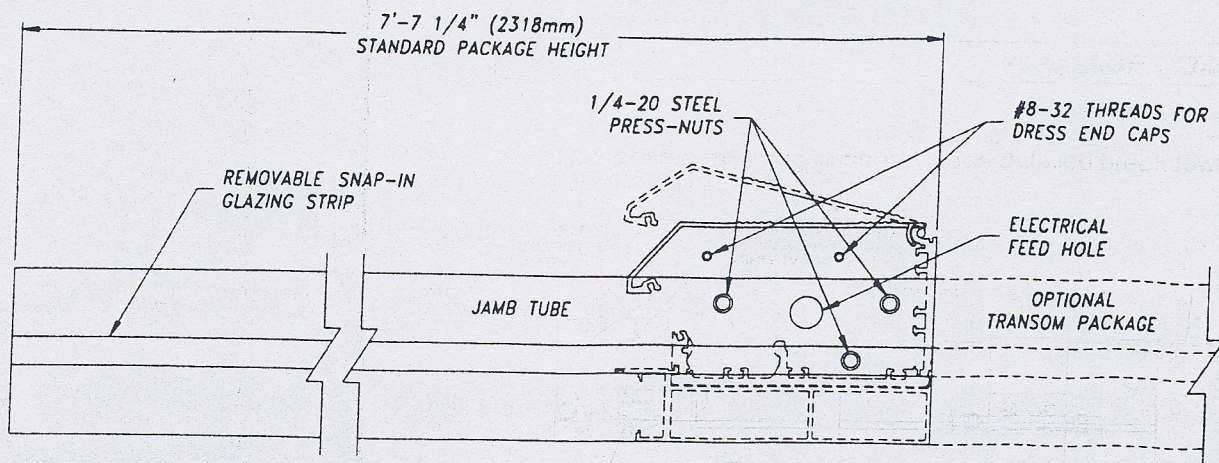

FIGURE 4: Jamb Tube Attachment to Header
3. Align the jamb tubes with the ends of the header, making sure that the bolt holes and electrical feed hole line up. Use three $\frac{1}{4}$ -20 X 1" long bolts on each side to secure the header end cap to each jamb tube. Then install one dress end cap on each side using the #8-32 screws (Figure 4).